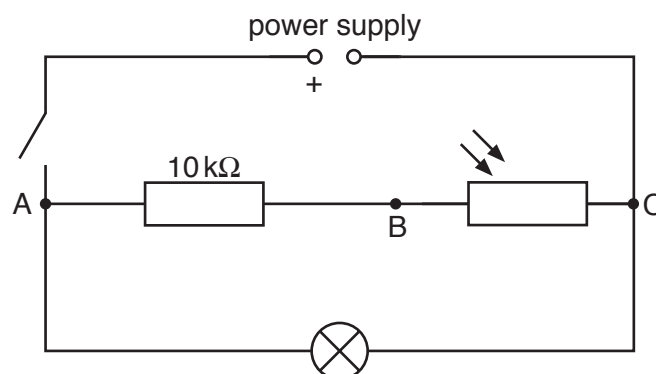

Fig. 4.1
2. The $10\text{ k}\Omega$ fixed resistor is part of a circuit shown in Fig. 4.1 which must be set up by the supervisor. It must be possible to connect the leads from a voltmeter at points A, B and C. These points must be clearly labelled on the apparatus.
At the changeover the supervisor must ensure that the circuit is restored to the arrangement shown in Fig. 4.1 with the voltmeter disconnected and placed on one side. If cells have been used, check that they are still capable of producing 3.0V and replace them if necessary. Spare lamps should also be available.